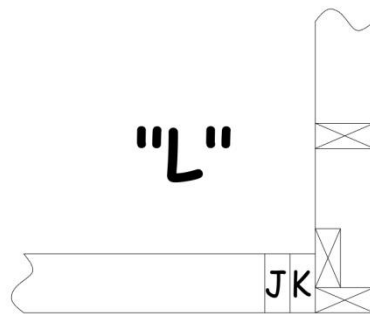

Figure 6-5. L-Corner Construction.
- d. Where a door will be attached at the end of a bathroom or bedroom wall, mark the end of the wall for a 2x4 L-corner oriented to allow nailing through the L-corner into the King stud of the door. (Similar to the 2x6 L-corners used in the exterior walls). If doors are to be attached on both sides of this same wall, install a 2x4 "U-block" at the end of the wall as shown in Figure 6-5.